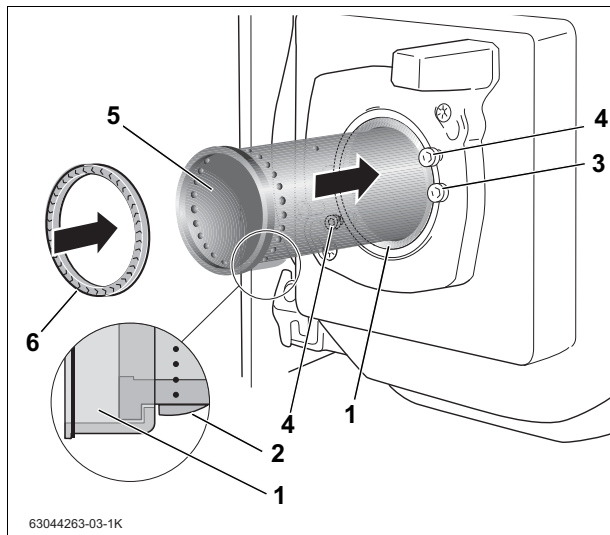

Fig. 27 Replacing burner tube
- Place the new burner tube into the locking collar (Fig. 27, **Item 5**). Slide the burner tube past the lip (Fig. 27, **Item 2**) and engage the tube with the locking collar. The lip of the burner tube must point downward and be engaged (Fig. 27, detail).
- Use a new burner tube gasket (Fig. 27, **Item 6**).
- Always replace the gasket (Fig. 27, page 28) between the mixing system and the burner tube when reinstalling the burner. It is not reusable.
- Insert gasket (Fig. 27, page 28) into burner tube.
- Position burner on the two bolts in the burner flange (Fig. 27, page 28).
- Turn counter-clockwise as far as the stop and re-tighten the fixing screws (Fig. 27, page 28).